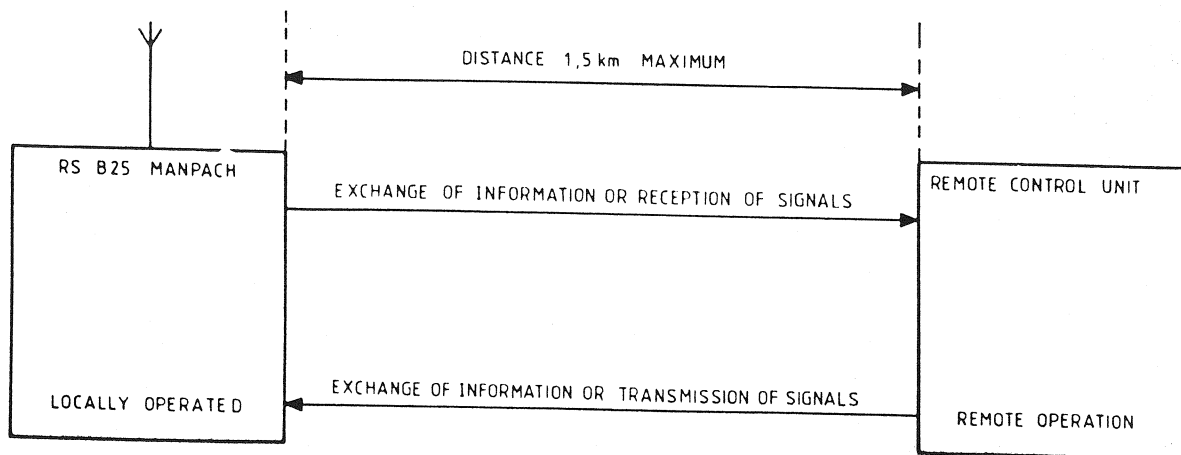

Fig. 2B.2 Remote Control Function
- 14 A block diagram of the remote control function is given in Figure 2B.2 below.